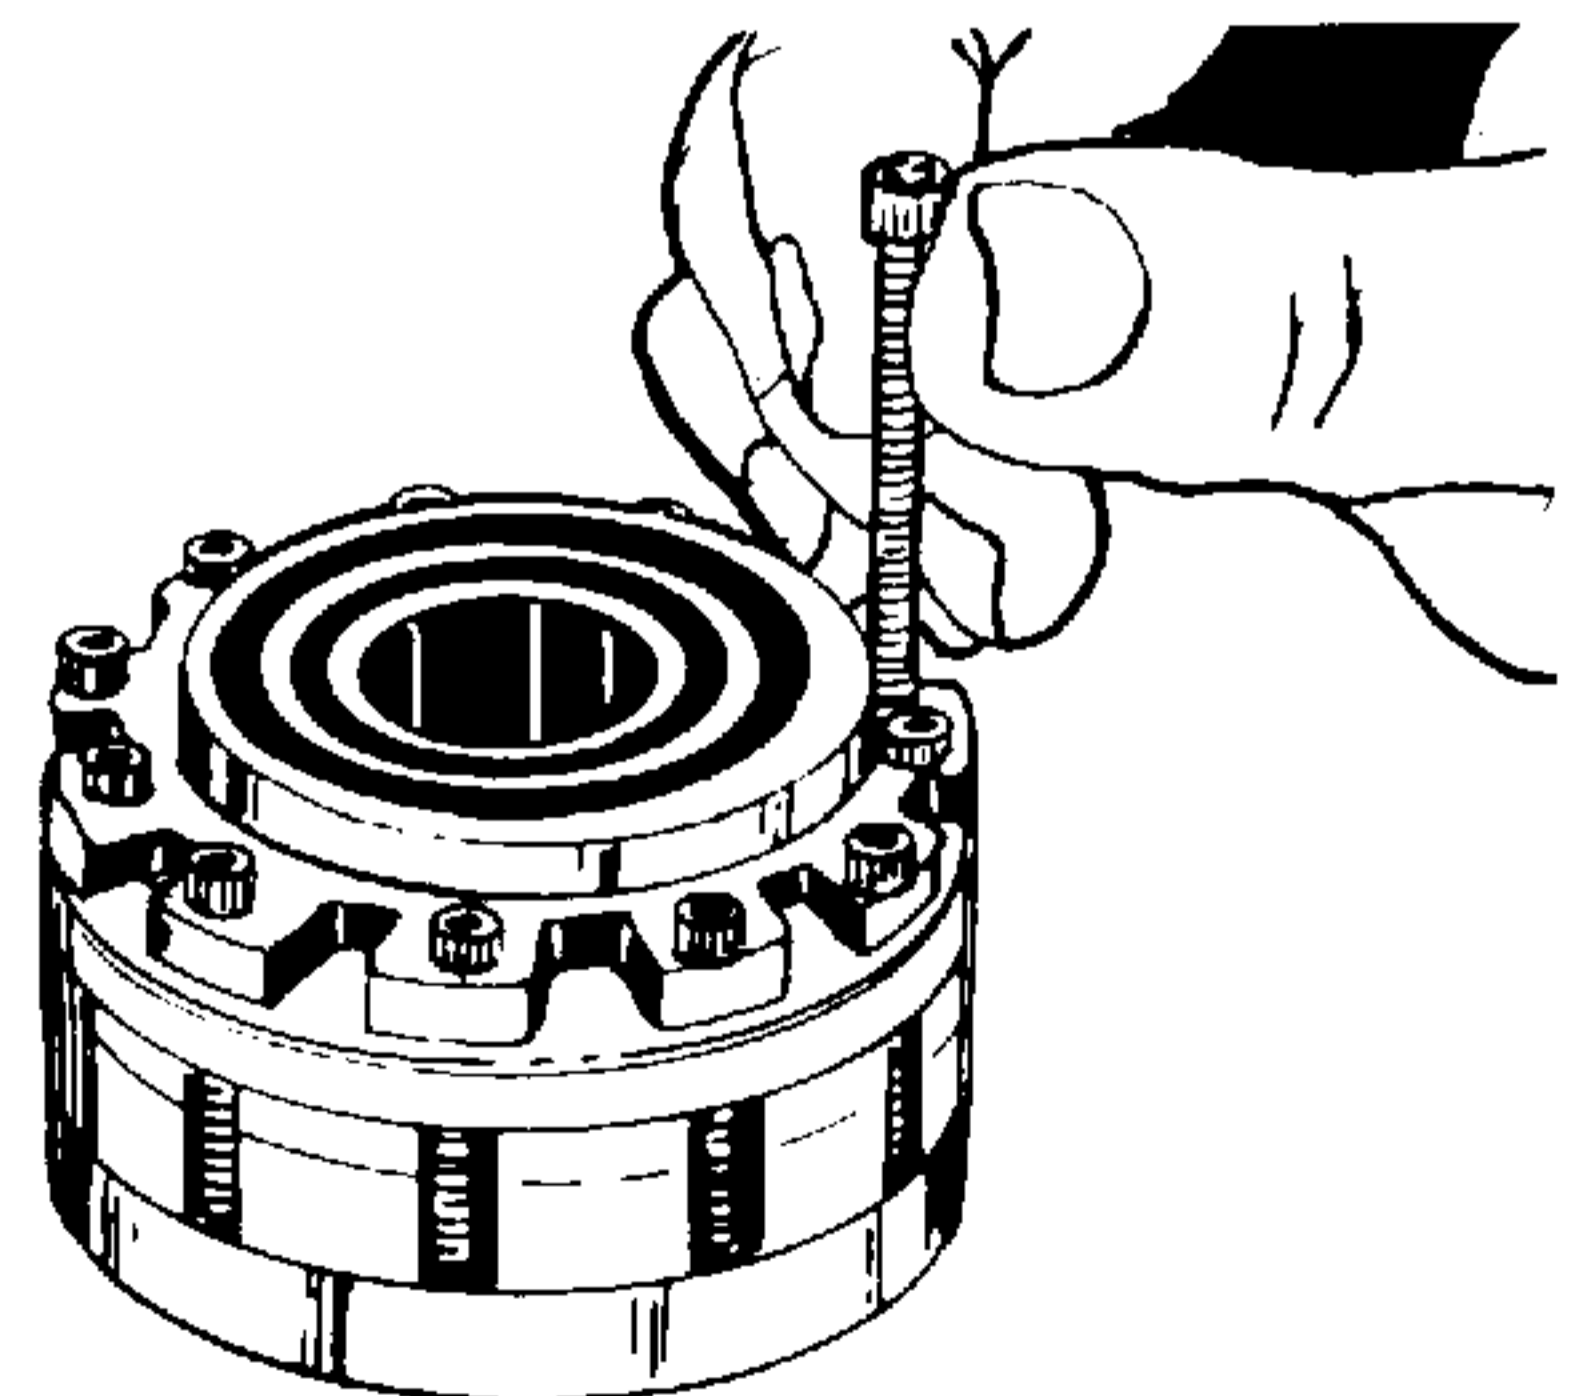

Figure 4-62. Installing Cap Screws.
16. Screw the eleven hex socket head cap screws (16, Figure 4-1) loosely into metering package. See Figure 4-62.